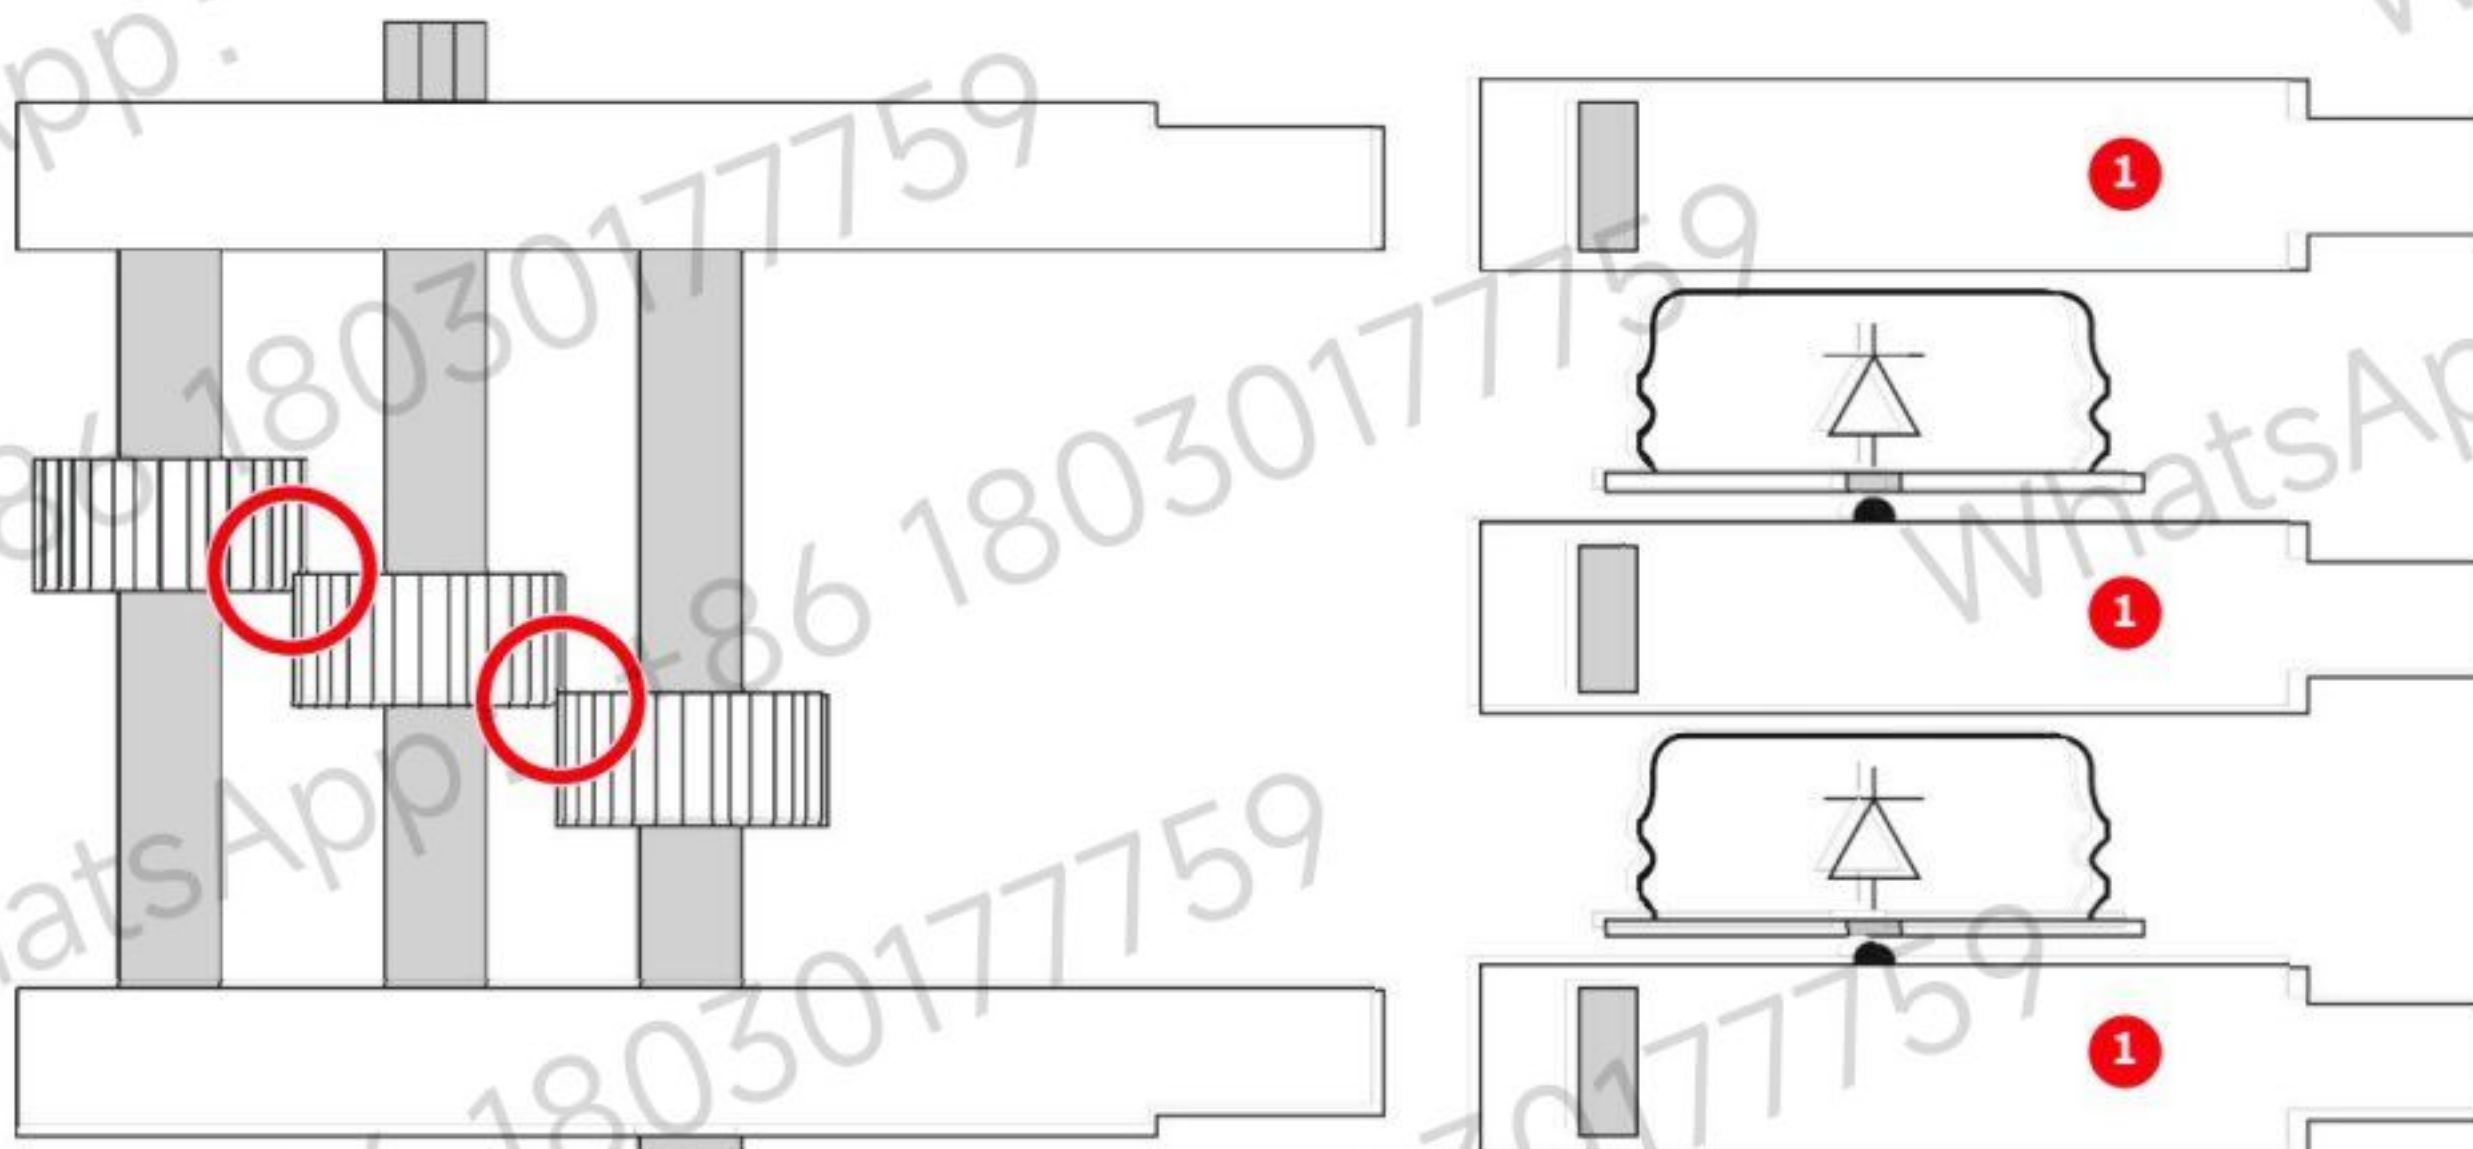

Figure 10-11 Spreading tool applied over three heat sinks
- For replacing the neutral point diodes the spreading tool must be applied over three heat sinks (see Fig. 10-11).